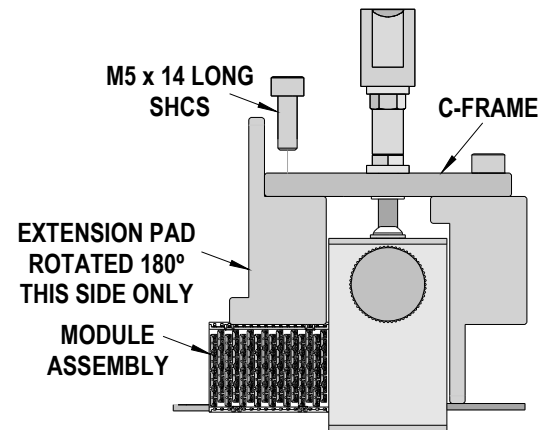

Figure 8
1. Remove the M5 x 14 long SHCS on the side where the extra module is located. See Figure 8.